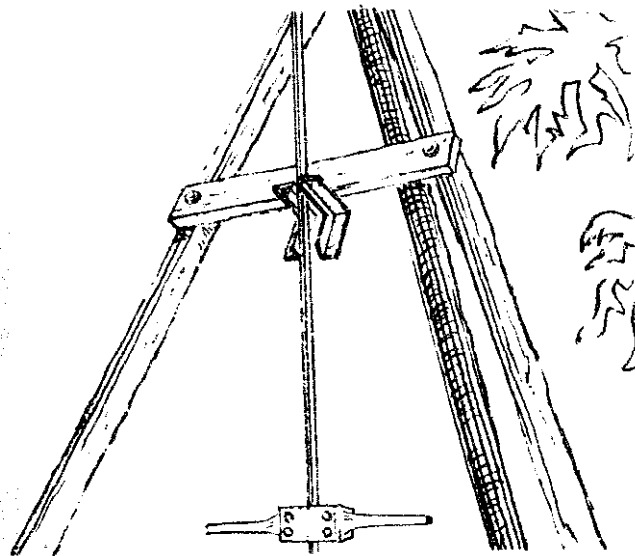

FIGURE 15
The tripod (see Figures 15 and 16), which is made of poles and assembled with 16mm (5/8") bolts, serves three purposes: (1) to steady the extension of the auger when it extends far above ground; (2) to provide a mounting for the pulley (see Figures 17 and 19) used with the drill bit and bailing bucket; and (3) to provide a place for leaning long pieces of casing, pipe for pumps, or auger extensions while they are being put into or taken out of the well.
When a pin or bolt is put through the holes in the two ends of the "L"-shaped pulley bracket (see Figures 15 and 18) that extend horizontally beyond the front of the tripod crossbar, a loose guide for the upper part of the auger extensions is formed.